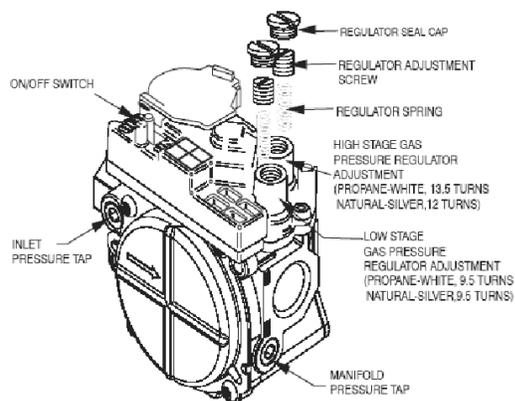

Fig. 3 - Two Stage J Valve
- A. Remove both regulator seal caps. (See Fig. 3.)